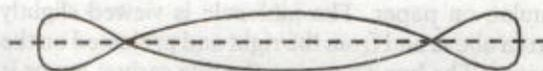

FIGURE 15.6. A cylindrically symmetric MO (of a single bond) obtained by overlapping of sp^3 -hybrid orbitals of two carbon atoms.
It has already been stated in Unit 5 that a sigma (or single covalent) bond between two carbon atoms is formed by overlap of sp^3 -hybrid orbitals of each carbon along their internuclear axis. Therefore, the electron distribution within the molecular orbital (MO) thus formed is *cylindrically symmetrical* along the internuclear axis as shown in Fig. 15.6. Due to this cylindrical symmetry of σ -MO's, rotation about carbon-carbon single bond is almost free (as it requires very little energy for rotation). As a result of this almost free rotation, the molecules of an alkane can have different shapes, i.e., different relative arrangements of their atoms in space.